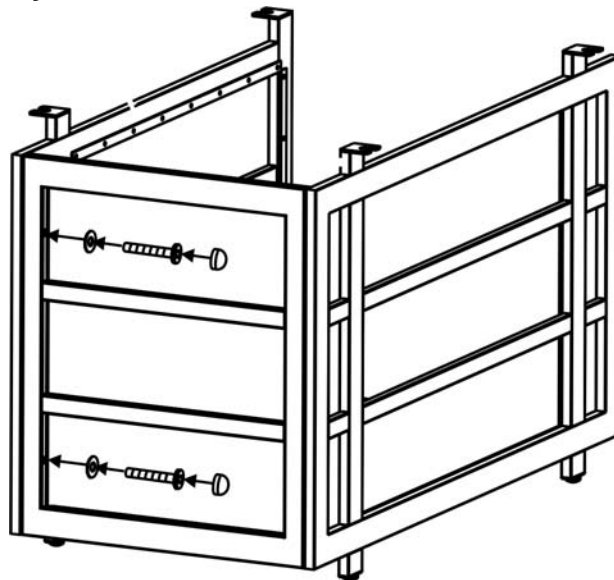

Figure 2
2. Attach the back panel to the side panels by using four 1/4"x45 mm bolts and washers as shown in Figure 2. Guide bolts through holes in back panel, into pre-drilled holes in the side panels. **Hand tighten only.**